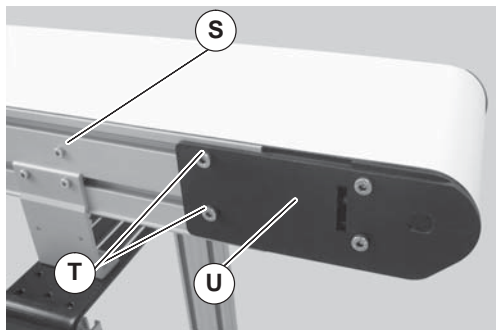
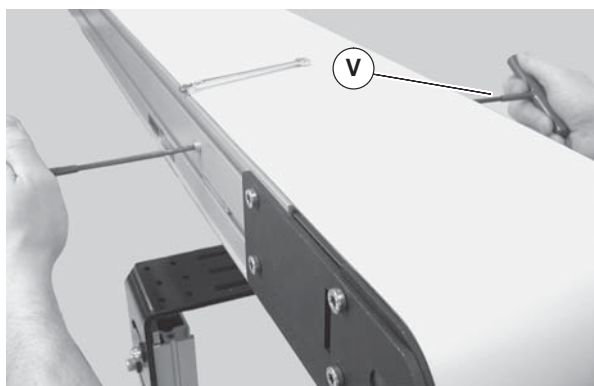

Figure 26
Figure 27
1. On tension end of the conveyor, identified by the pinion locking screw (Figure 26, item S), loosen the two tail clamp bolts (T), on both sides of conveyor.
2. With 5mm hex wrench, hold pinion torque screw (Figure 27, item V). Loosen the pinion locking screw (Figure 26, item S) and turn the pinion torque screw (V) to extend head plate assembly.
4. After adjusting proper tensioning, tighten the pinion locking screw (Figure 26, item S) to 69 in-lbs (7.8 N-m), and tighten tail clamp bolts (Figure 26, item T) on both sides of conveyor to 146 in-lb (16.5 N-m).
1. Ensure tensioning racks are extended and touching the idler pulley headplates: loosen the pinion locking screw (Figure 26, item S) and rotate the pinion torque screw (Figure 27, item V) clockwise until contact with the head plate is made, then tighten the pinion locking screw (S) to 69 in-lbs (7.8 N-m)